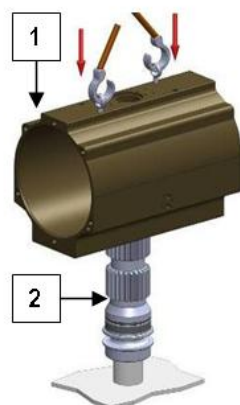

Fig.20
3. Lay the cylinder ( 1 ) down on the pinion ( 2 ), see fig. 20 ;